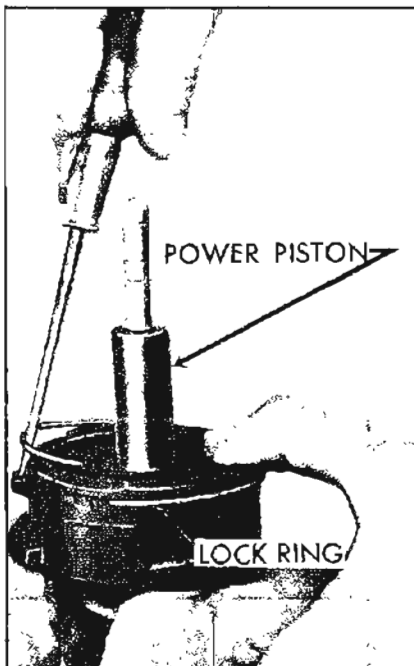

Figure 9-31—Installing Power Piston Lock Ring
26. There is a lug on the power piston which has a raised divider in the center. One end of the lock ring goes under the lug and on one side of the divider. See Figure 9-31.